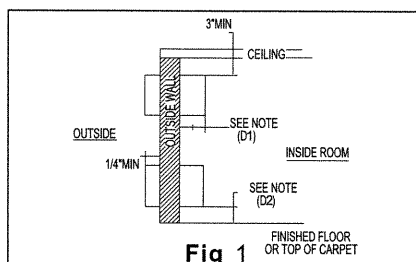

Fig 1
- There should be sufficient space around the unit to facilitate maintenance and repairs (refer to Figs 1 and 2).